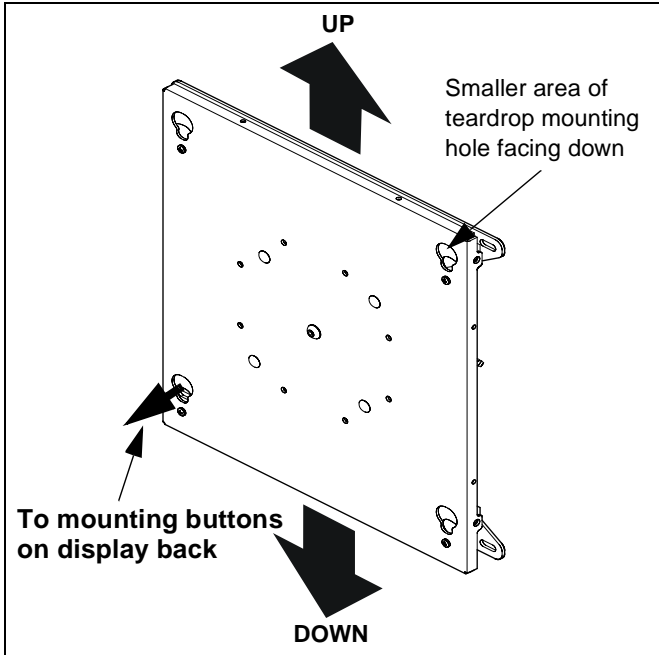

Figure 3: Mount Orientation
1. Verify mount is in the proper orientation for mounting. (see Figure 3)